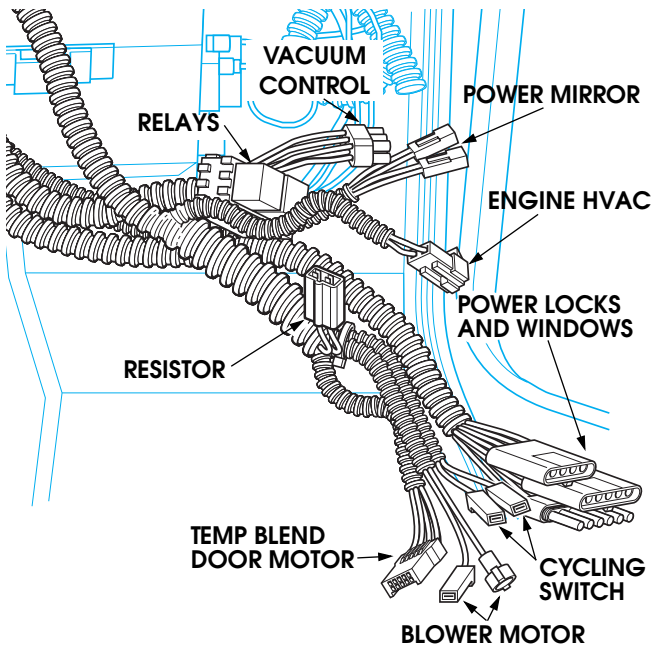

Figure 11-86: Harness/Connector Identification
- 14. Disconnect the vacuum motor harness, engine HVAC harness, water valve harness, temperature blend door connector, cycling switch connections, power mirror harness, resistor harness, power door lock harness, power window harness and blower motor connections (Figure 11-86).